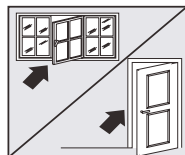

Fig. 11
- Close the windows and doors in the room to be air conditioned (Fig. 11).